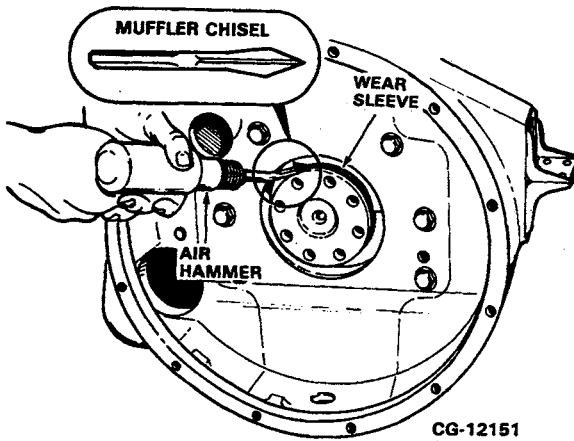

Figure 7.10. Remove Wear Sleeve with Air Hammer and Muffler Chisel
1. With the rear oil seal removed, the wear sleeve can be removed using a muffler chisel and air hammer. Refer to Figure 7.10.